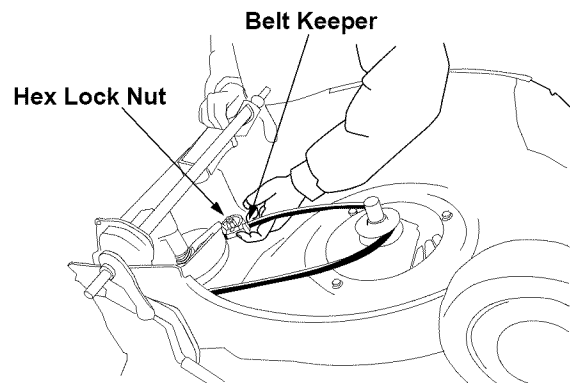

Figure 18
- Loosen the hex lock nut holding the idler bearing. Push back and rotate the belt keeper as shown in Figure 18.